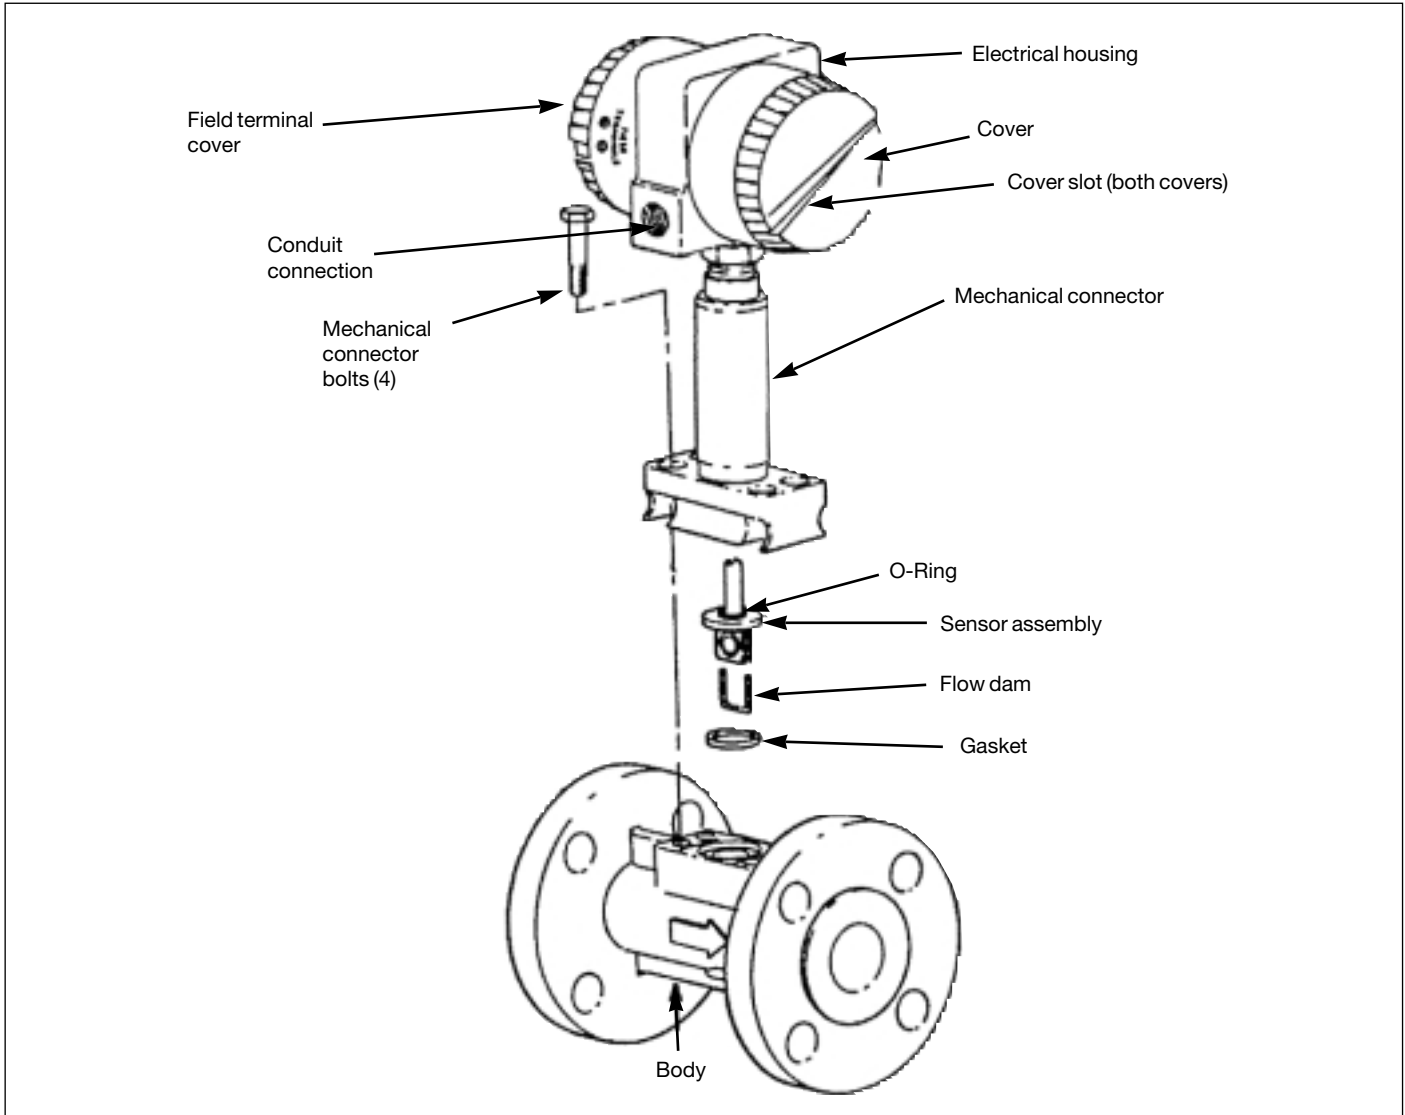

Figure 28. VFM 3100 Assembly
- Remove the mechanical connector bolts and lift off the electrical housing, mechanical connector, and sensor as a unit. See Figure 28.